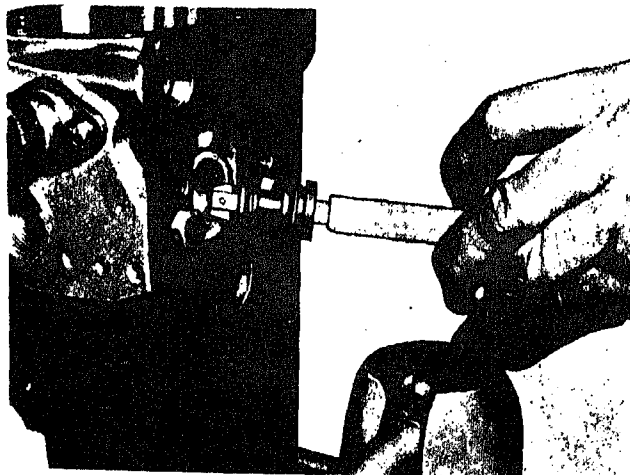

Fig. 501-19 Removing by-pass valve sleeve
3. Insert Cummins ST-586 (without sleeve) in by-pass valve sleeve. Fig. 501-19. Pull to remove sleeve. Discard "O" rings.